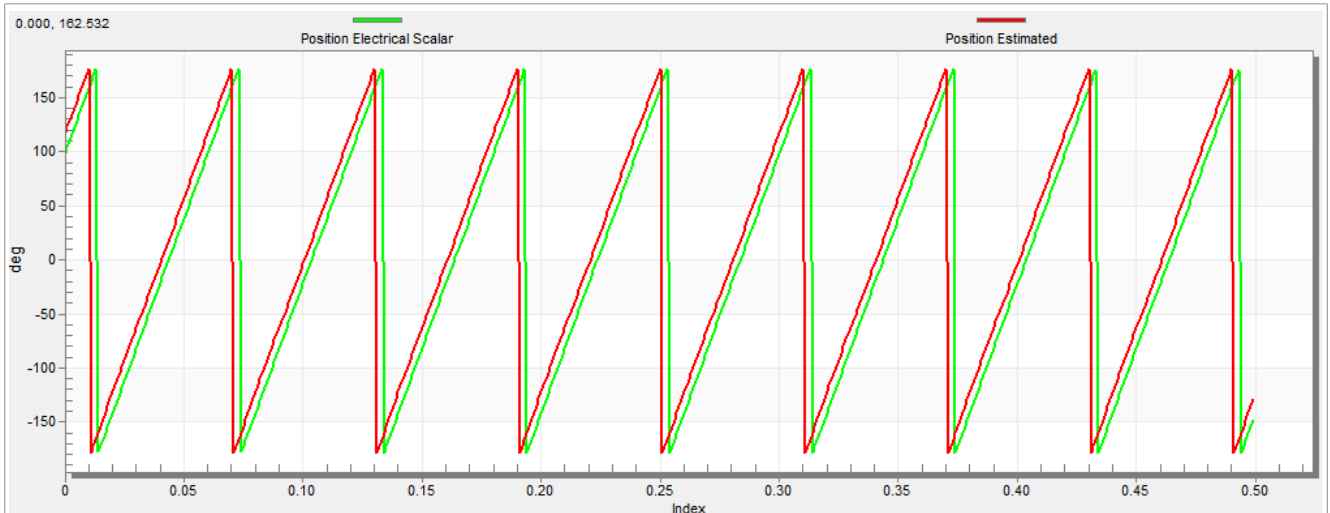

Figure 31. Generated and estimated positions
6. Select the "Position" recorder to check the observer functionality. The difference between the "Position Electrical Scalar" and the "Position Estimated" should be minimal (see Figure 31) for the Back-EMF position and speed observer to work properly. The position difference depends on the motor load. The higher the load, the bigger the difference between the positions due to the load angle.